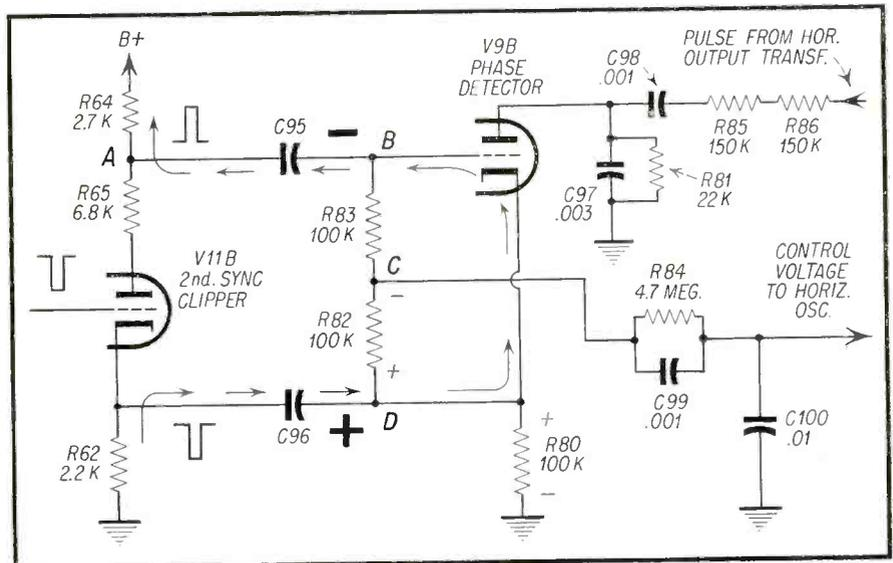

Fig. 1—AFC circuit of Motorola TS-531 and TS-609.
Fig. 3—Simplified circuit diagram of video output stages of a high level 2-triode color receiver. Observe that the controls are the same in number and function as in Fig. 1.
Referring to Fig. 3 we observe a basic simplified High Level 2-Triode video output circuit showing connections to the picture tube and associated controls. Note that the controls shown are in exact correspondence with respect to type, location, number, and function with the controls indicated in Fig. 1. Hence it follows that as far as the picture tube is concerned the internal matrixing and tracking requirements are identical in the two systems. From this we have only one conclusion, namely, that the black and white tracking procedure outlined previously holds true identically for the high level system. As a matter of fact regardless of the possible variations that might be developed in the future for B-Y/R-Y designs utilizing Equal Drive and matrixing in the picture tube, this procedure will in all likelihood be applicable.
controls the movement and position of the *rf* and oscillator tuning cores in the inductance tuning process. The gear train has at its end a nylon paddle wheel. This paddle wheel performs two functions; that of acting as an air vane and thereby restricting the gear train to a relatively constant speed plus that of providing a means of stopping the movement of the gear train by the engagement of a relay arm in the paddle wheel. This can be noted in the block diagram of the electrical components together with the mechanical items comprising the "Signal Seeking" control unit as shown in Fig. 1.
**T**HE circuit chosen for analysis in this issue is that of a triode horizontal afc phase detector. The particular circuit chosen is from the Motorola TS-531 and TS 609 chassis. It is frequently used in other models and by other manufacturers. Fig. 1 is a schematic of the circuit under consideration. Fig. 2 is its block diagram.
Referring to Fig. 1, we observe that the sync pulses at the input to the 2nd sync clipper are negative in polarity. As a result, we have positive pulses at the plate and negative pulses at the cathode of V11B.
Since, this pulse makes the grid positive with respect to its cathode, a grid current flows through V9B as indicated by the light arrows. This action occurs only at the time of the sync pulse. Since the grid to cathode path is one of low resistance, C95 and C96 charge up quickly to the peak value of the sync pulses. The polarity of these condenser charges are as indicated in Fig. 1, so